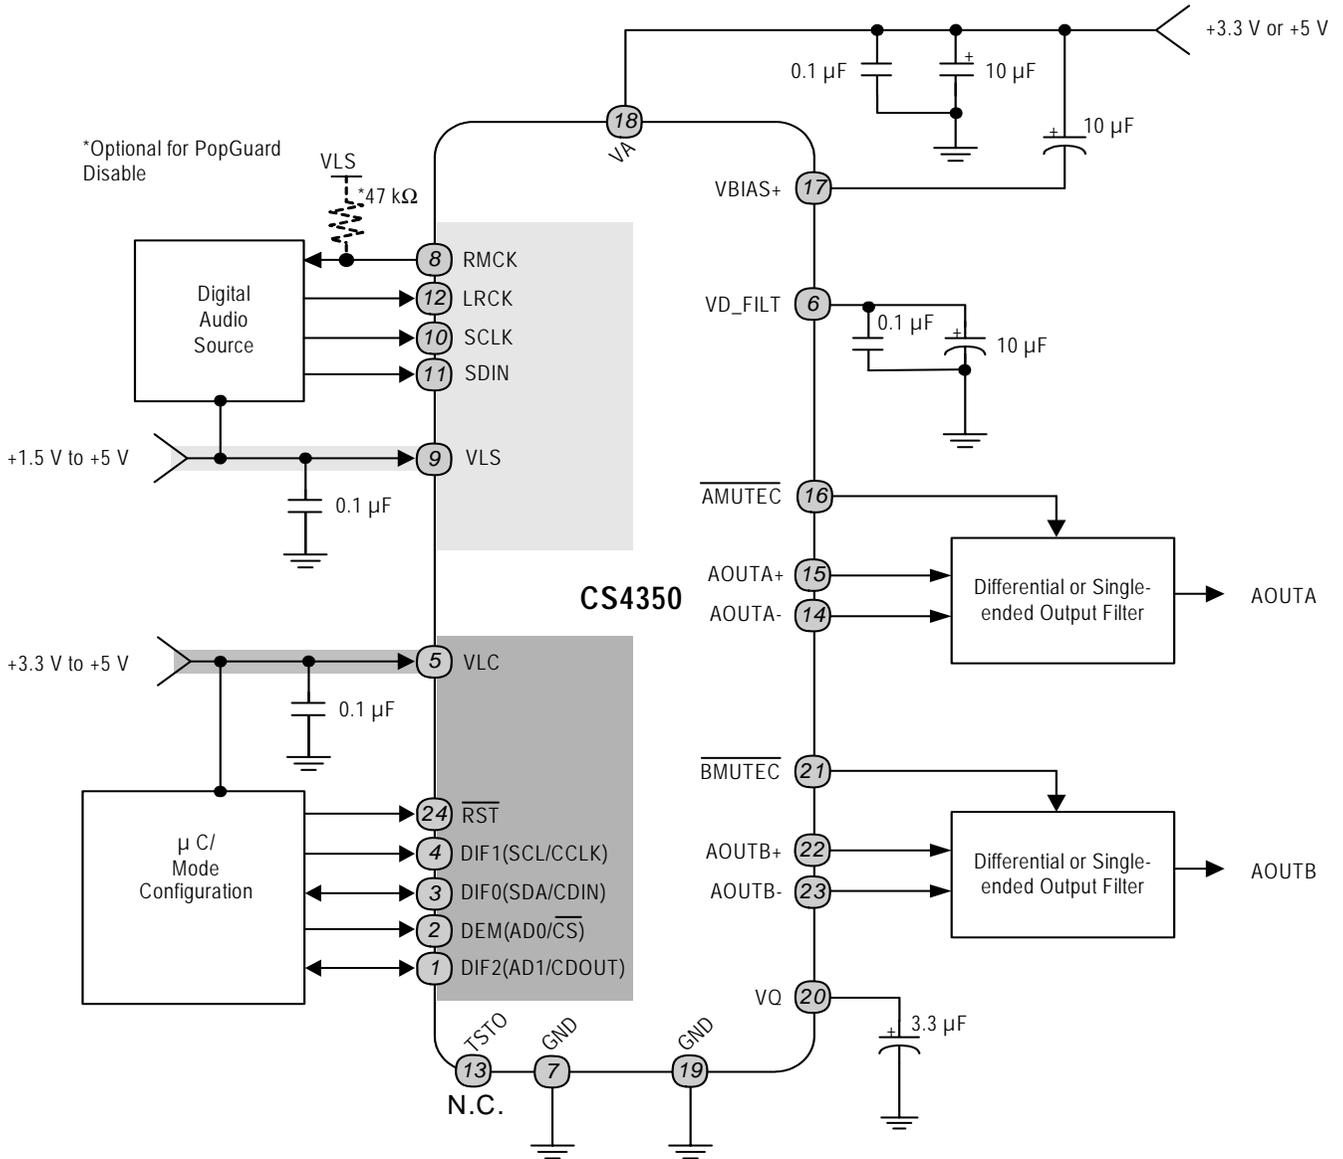

Figure 7. Typical Connection Diagram
17. Valid with the recommended capacitor values on VFILT, VQ, and VBIAS+ as shown in the typical connection diagram in Figure 7.
As with any high-resolution converter, the CS4350 requires careful attention to power supply and grounding arrangements if its potential performance is to be realized. Figure 7 shows the recommended power arrangements, with VA, VLC, and VLS connected to clean supplies. The use of split analog and digital ground planes is not recommended. However, if planes are split between digital ground and analog ground the GND pins of the CS4350 should be connected to the analog ground plane.